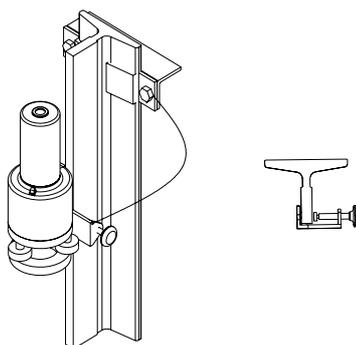

Fig 1.5
The fixer is to fasten JZC—E instrument on the guide rail conveniently and the safety tether is to prevent the instrument from it’s falling (see Fig 1.5). There is the interface on the principal part to install the instrument on the tripod when it is used for other application.
2.1.2 Fasten the main body on the top of the guide rail. The rail should be clean. The five pegs should be close-contact on the two faces of guide rail. Lock the wheel and fasten it on the rail (see Fig 1.5). The main body will not be moved again during the measurement unless the relay measurement is operated for the high building.
2.1.3 Drill the hole on the fixer and tie the tether on the bracket of guide rail against instrument falling down (see Fig 1.5).